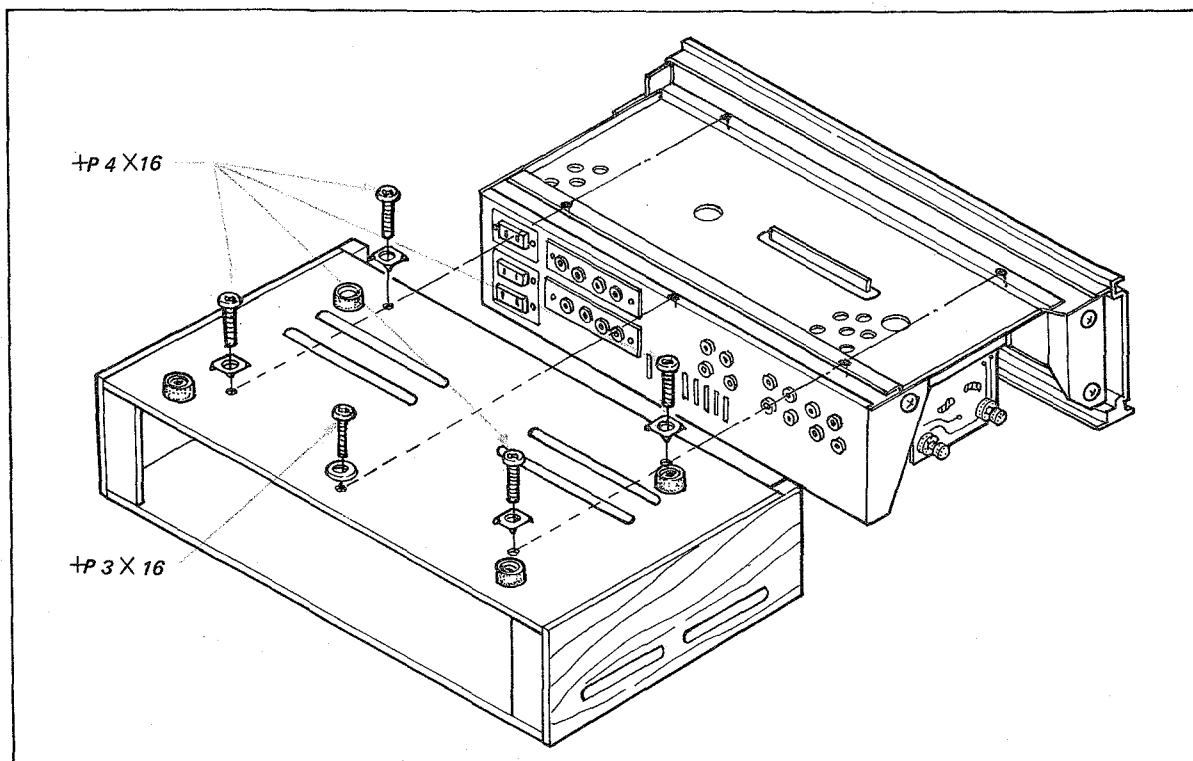

Fig. 2-2 Wooden case removal
1. Remove the four corner screws (+P 4 X 16) and one screw (+P 3 X 16) securing the wooden case to the chassis as shown in Fig.2-2.